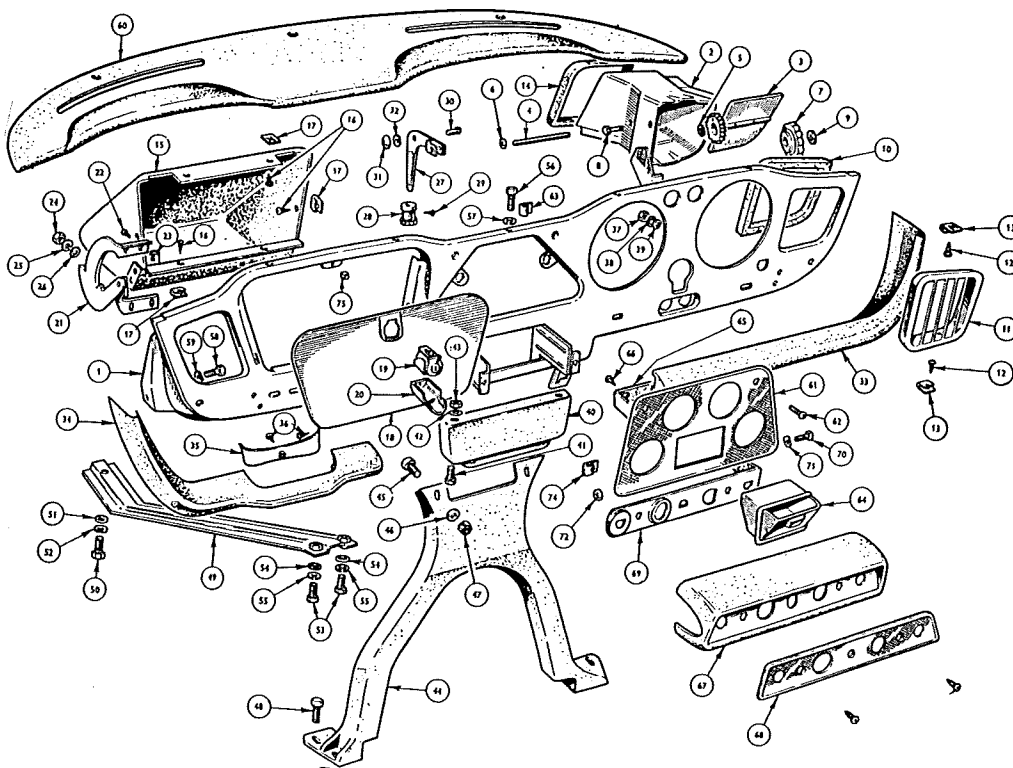
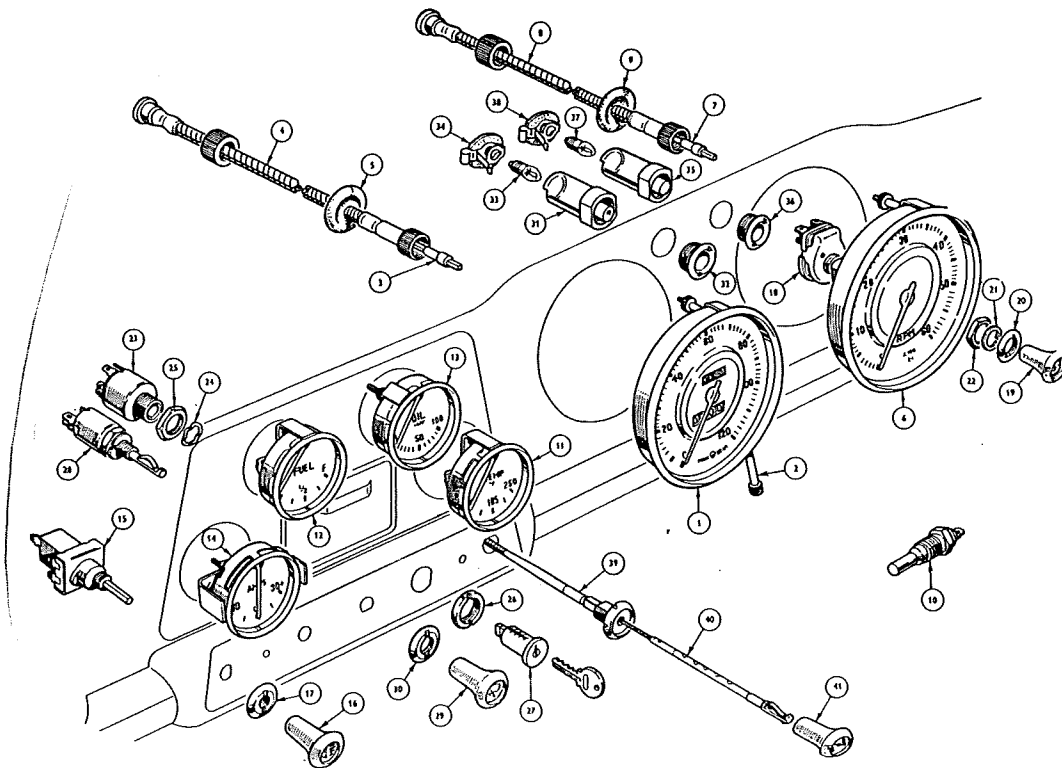

Figure IN-12: Exploded View Of The Dash And Supports
Figure IN-13: Instrument Locations
The TR4 and TR4A dashes during the production run were shown in Figures IN-2 through IN-4. What follows is a description of the items that made up the dash. Unless otherwise noted the items applied for both the TR4 and TR4A. An exploded view of the TR4 dash is in Figure IN-12.
The TR4/4A instruments are shown in Figures IN-2 through IN-4 also. Figure IN-13 is the instrument illustration from the parts catalogue. Note that some of the items in this section are shown in Figure IN-12.
Gauge Location - One of the most common originality deductions involves gauge location. Figure IN-13 shows the gauge location for RHD cars. This is mirrored for LHD cars.
Center Dash Mounted Instrument Panel Switches and Controls - The instrument panel light switch, windscreen wiper switch, side/head lamp switch, starter/ignition switch, windscreen washer pump, and choke control were located in the center panel. These switches are shown in Figure IN-13, and are in the correct position (this did not swap between RHD and LHD cars). Switch knobs were black with their function indicated pictorially on the front behind a clear plastic cover. These functions are shown in Figure IN-14.
- Mounting Plinth (#67, Figure IN-12) for the early TR4 was a cardboard unit covered with leather grain vinyl. The insert (#68) was stamped aluminum left natural. Later Plinths were injection molded black plastic.